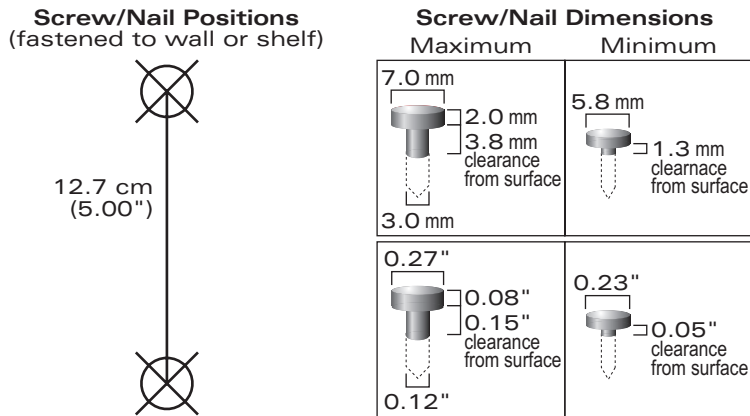

FIGURE 3-3 Mounting Screw Specifications
1. Install two screws in the wall or shelf as shown in Figure 3-3: